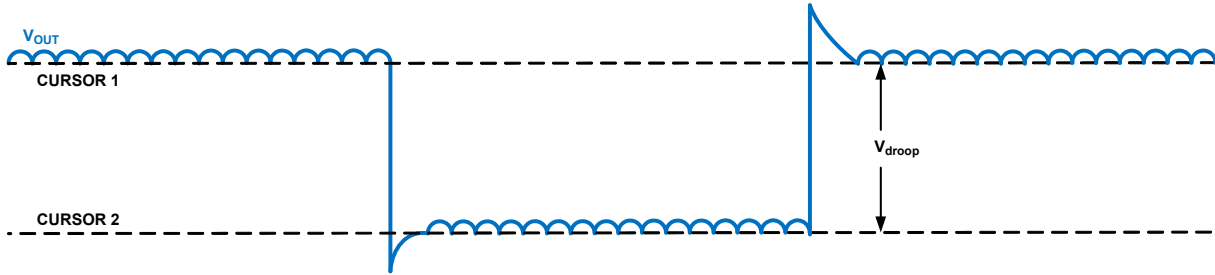

FIGURE 1. V_{DROOP} ADJUSTMENT
6. Using a VRTT, load the part with a transient from 1A to I_{CCmax} , at a 300Hz rep rate, and monitor V_{OUT} on the scope. Set the time base on the scope so that one full cycle is visible. Position the cursors on the scope as shown in Figure 1 on page 3 and adjust R_{droop} in 1% increments until V_{droop} is dialed into spec.